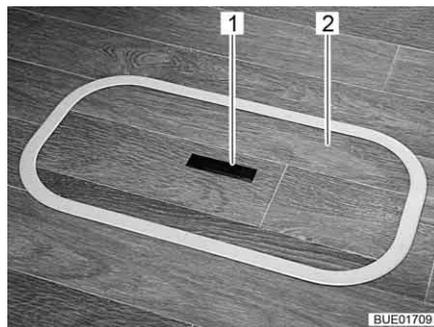
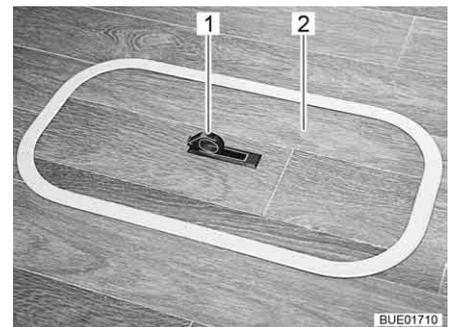

Fig. 75 Floor compartment cover (handle recessed)
Fig. 76 Floor compartment cover (handle swung out)
- Push one side of the grip plate (Fig. 75,1) downwards. The handle (Fig. 76,1) swivels upwards.
- Remove the cover (Fig. 75,2 or Fig. 76,2) upwards.